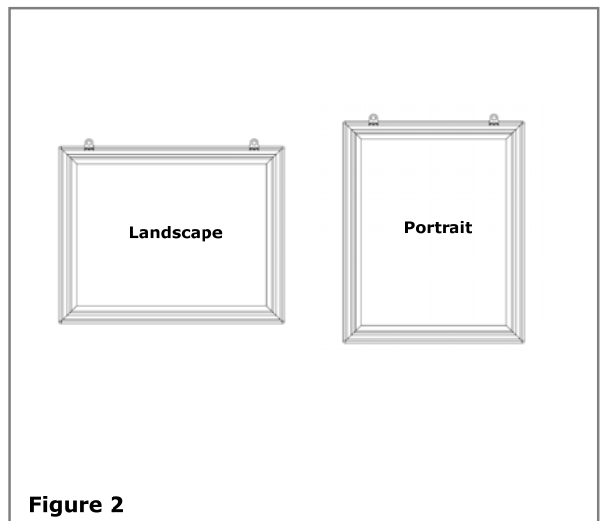

Figure 2
1. Determine if you are hanging the light box vertically or horizontally. Figure 2 shows the approximate locations for installing the mounting clips. **See Figure 2.**